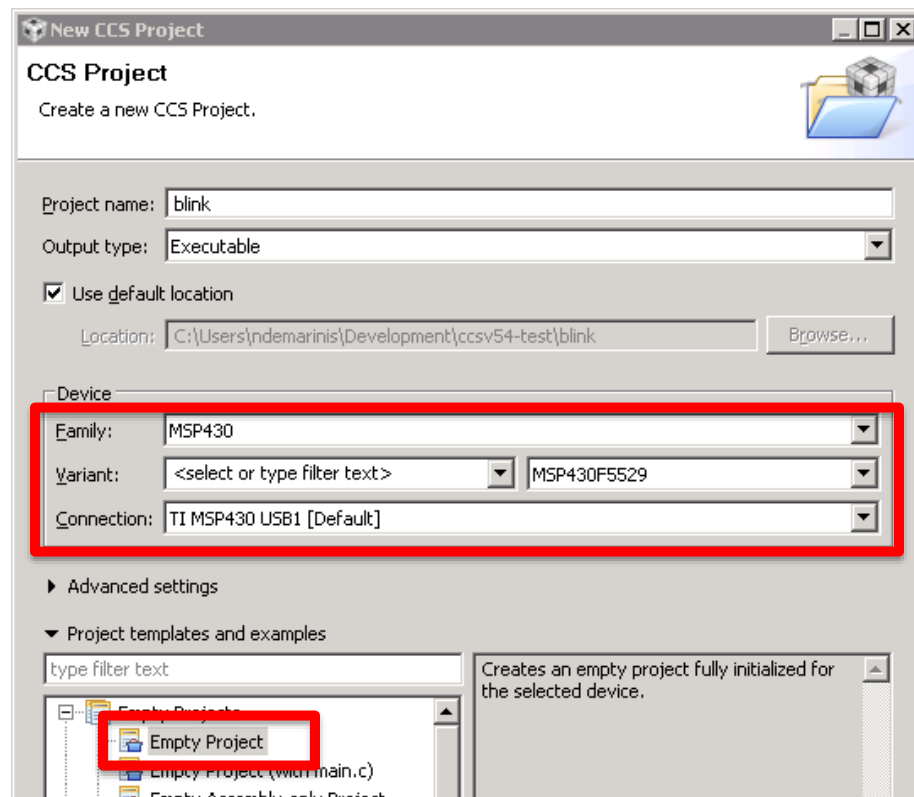

Figure 3: New CCS Project Dialog
9. Back in CCS, go to the **Projects** menu at the top of the window and select **New CCS Project**. You should see a window that looks like Figure 3. Enter a project name and set the other fields as shown in the figure. Note that it is critical that you select the model of processor to match the one we use, the MSP430F5529, which tells the compiler how to compile and link the code for our chip. Select **Empty Project** and then click **Finish**.